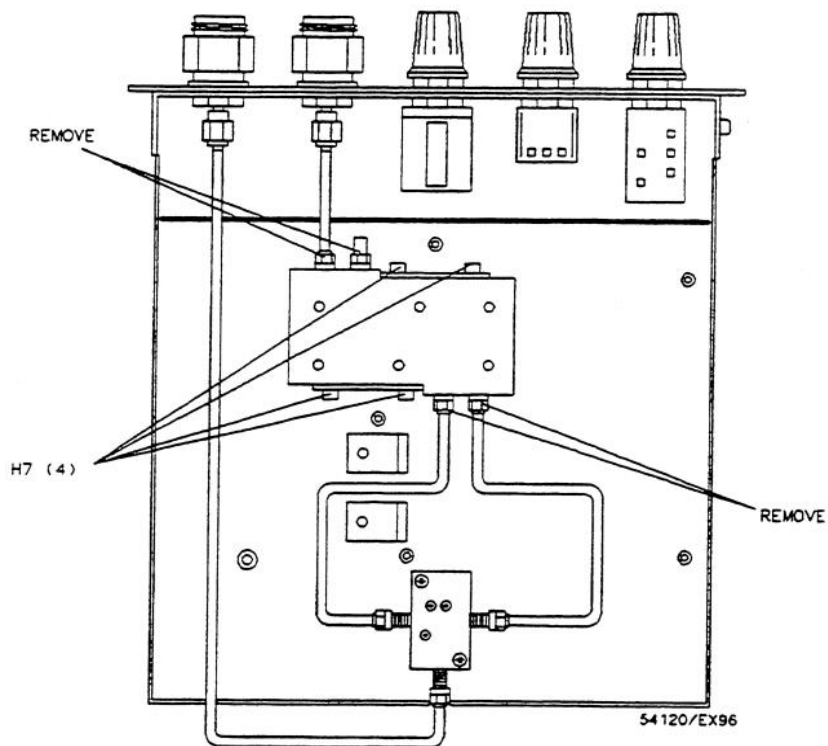

Figure 6-6. 180° Phase Splitter Removal
4. Use a 3/32 inch allen wrench to remove four screws which hold 180° phase splitter to main deck. Refer to figure 6-6.